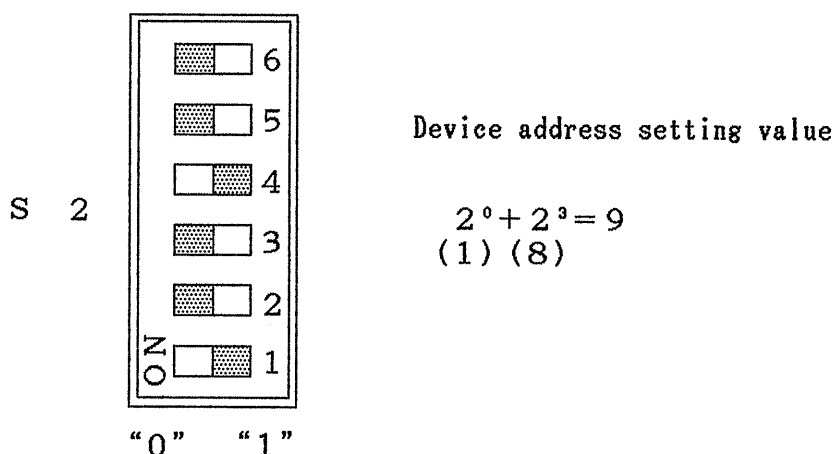

Figure 6-1
① Table 6-1 lists the values of S2 and corresponding addresses.
② When a switch of S2 is set to ON, the corresponding bit is set to the level of "0".
③ Figure 6-1 shows how S2 is set for address "09".